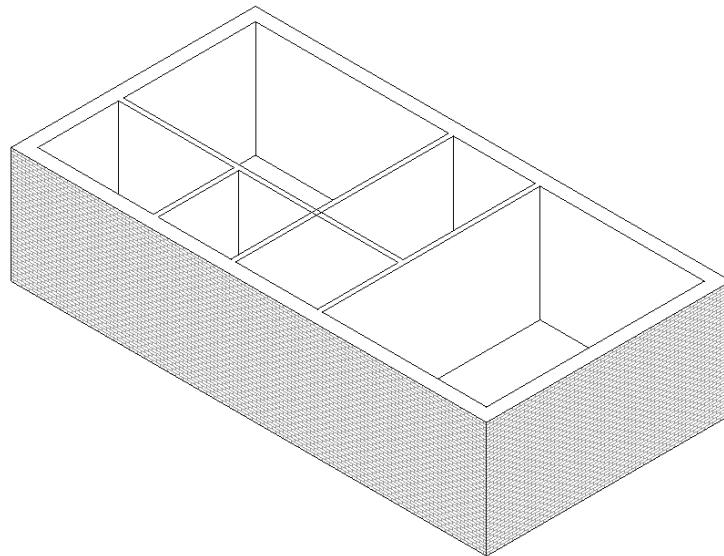

Figure 2-58 3D view of the Apartment 1 building model
8. To view the building model in 3D, choose the **3D** button in the **View** toolbar. Choose **View > Hidden Lines** from the menu bar. The view will be similar to the one shown in Figure 2-58.